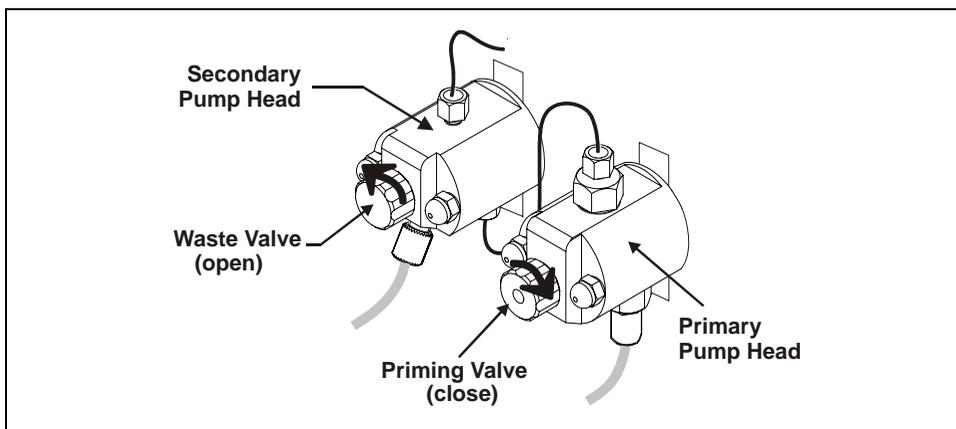

Figure B-38. Priming the Pump
1. Check that the priming valve on the primary pump head is closed (see Figure B-38).
2. Open the waste valve on the secondary pump head by turning the knob one-quarter to one-half turn counterclockwise (see Figure B-38). Opening the valve directs the eluent flow path to waste and eliminates backpressure.